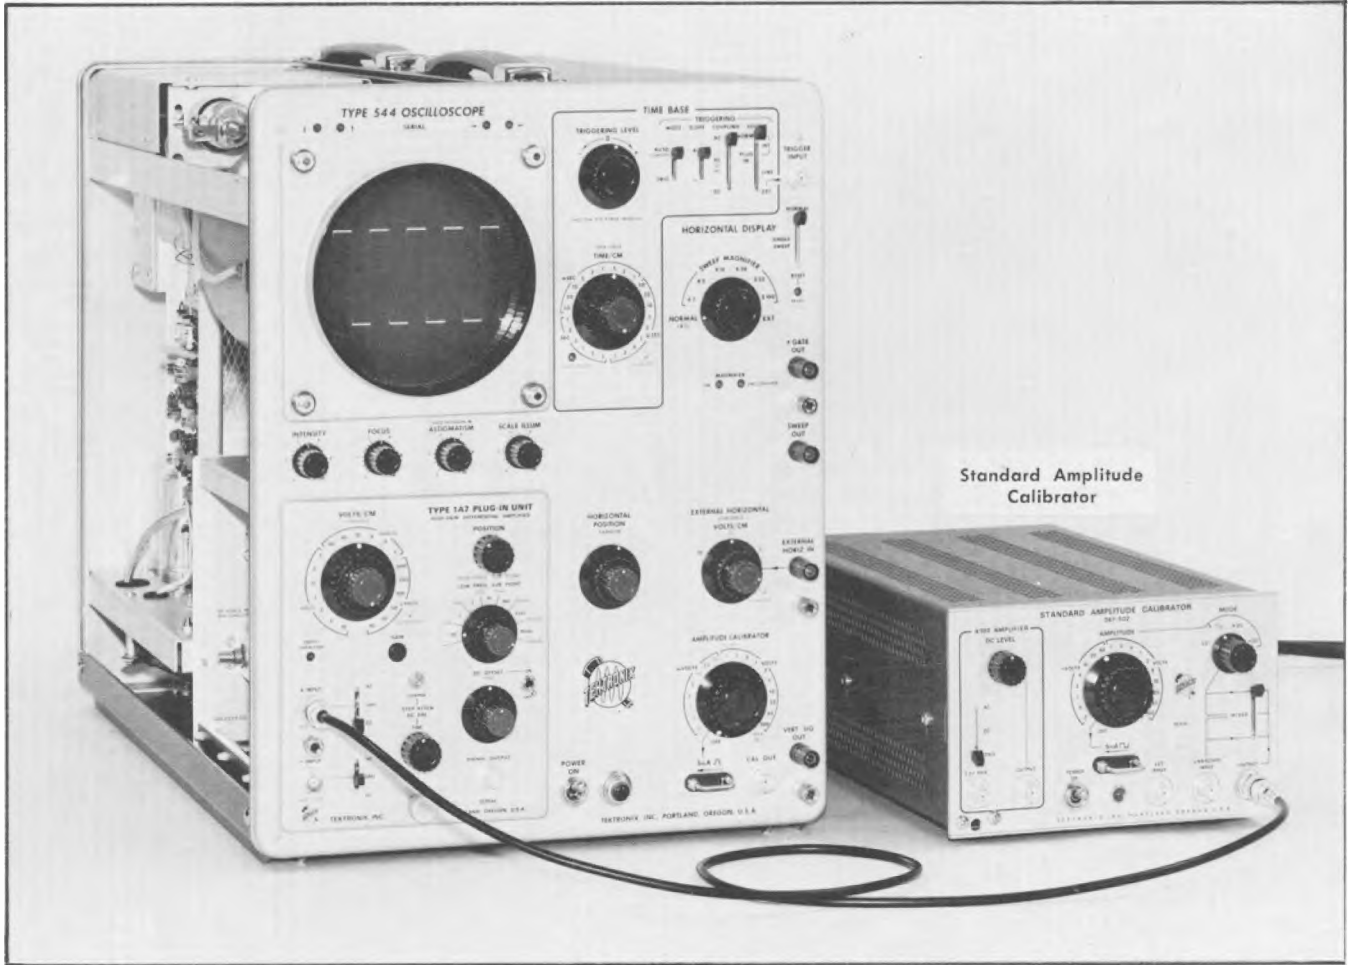

Fig. 6-8. Setup at completion of step 4b.
b. Apply a 50 mV peak-to-peak square-wave signal from a standard amplitude calibrator through a coaxial cable to the +INPUT connector. Fig. 6-8 shows the setup.